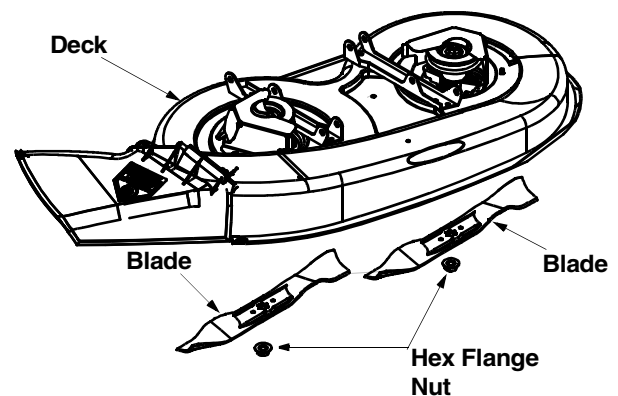

Figure 18
- Remove the hex flange nut which holds the blade to the blade spindle. See Figure 18.